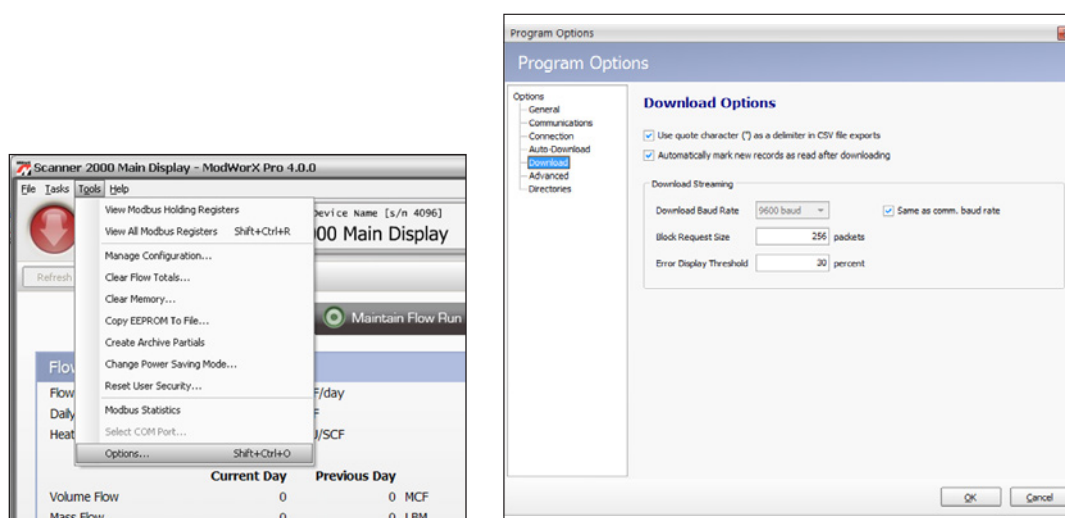

Figure A.22
1. Click **Tools>Options** in the task bar (Figure A.22, page A-21).